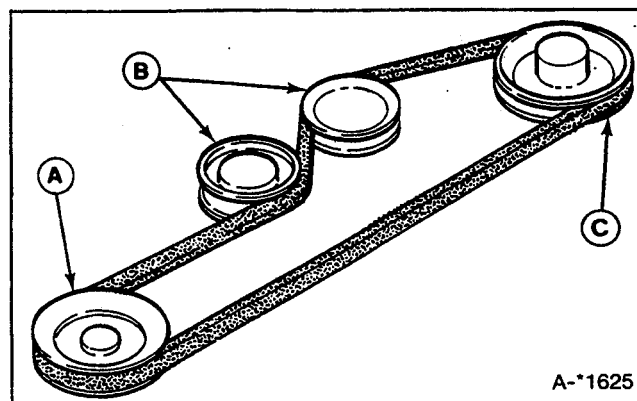

Figure 24. Tractor Belt Pattern
10. Install new belt over clutch lever arm in front. In rear, belt must be placed over transmission coolant lines, transaxle brake, and ground speed control linkage. Refer to figure 24 for belt pattern.
11. Reinstall speed control ball joints (E) at both ends.
12. Walk belt over transaxle fan and install on pulley (D).
14. Position belt between idler pulleys (B) and reinstall belt guide (A).
16. Reinstall clutch rod guide (F) to clutch lever arm and secure with locknut. Do not overtighten locknut. Clutch rod must pivot freely.